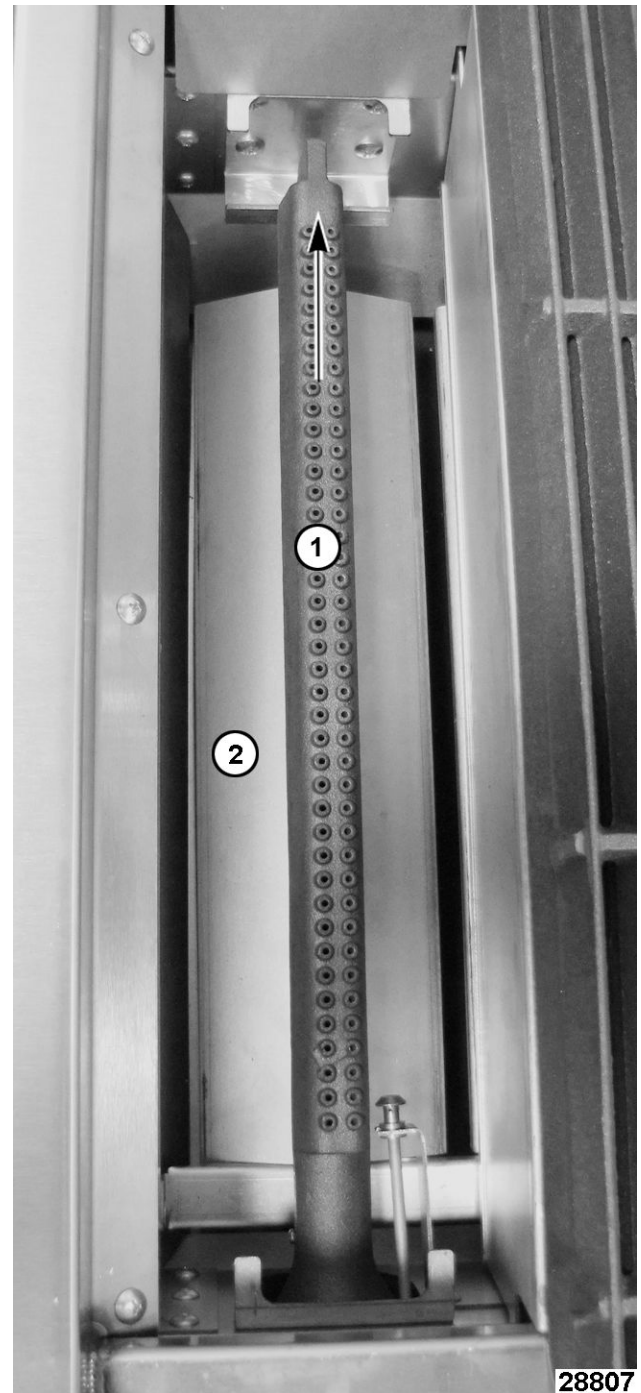

**Fig. 71**
4. Remove burner (1, Fig. 71) and deflector (2, Fig. 71) by lifting at the rear of burner.